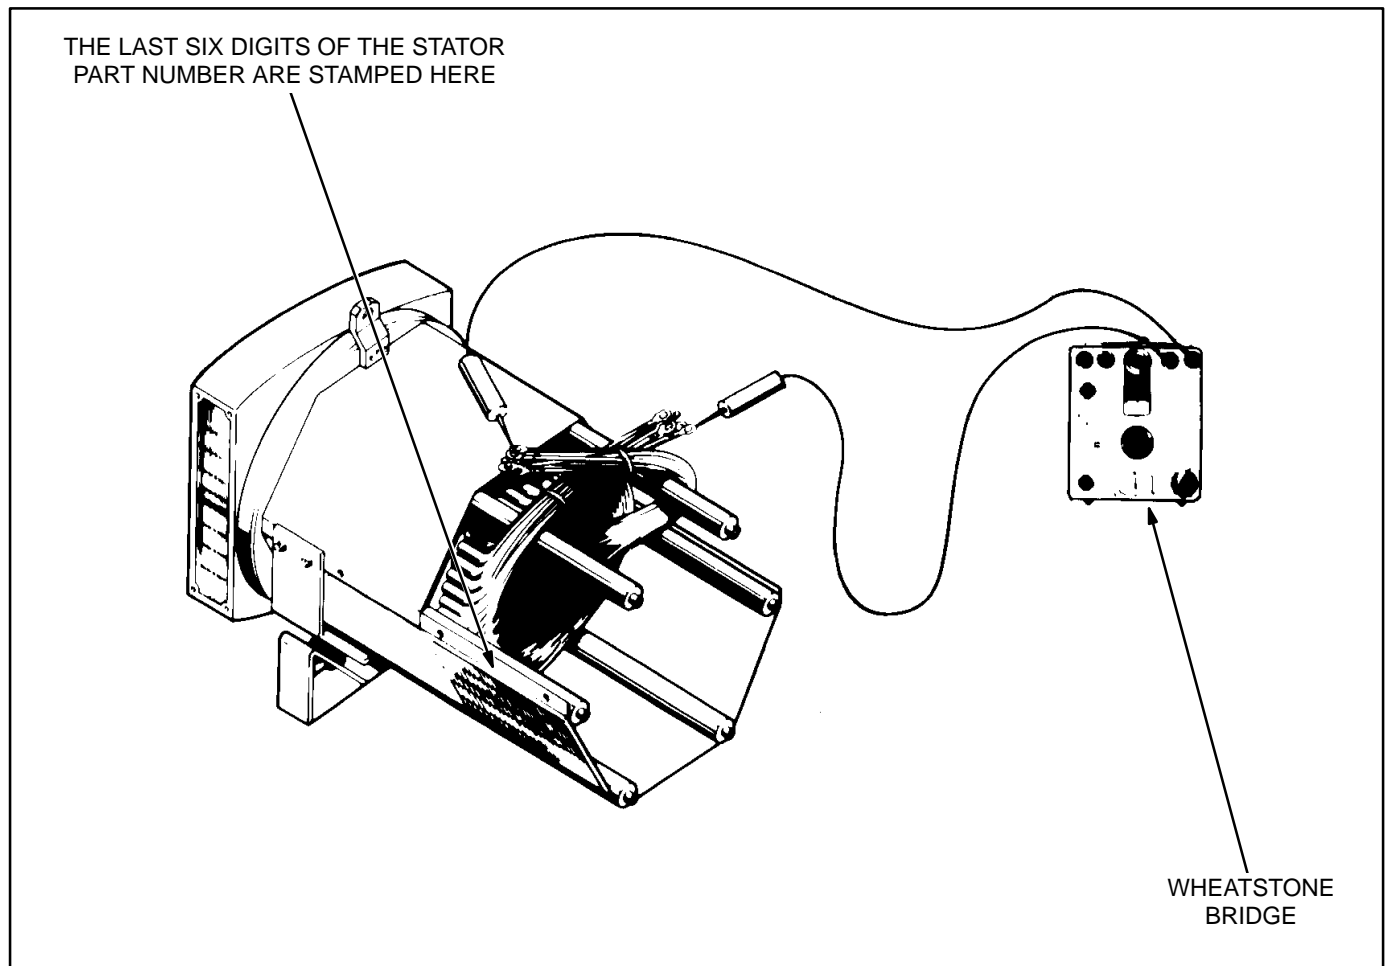

FIGURE 7-6. TESTING THE GENERATOR STATOR
*** - See Figure 7-6 for the location of the stator part number.